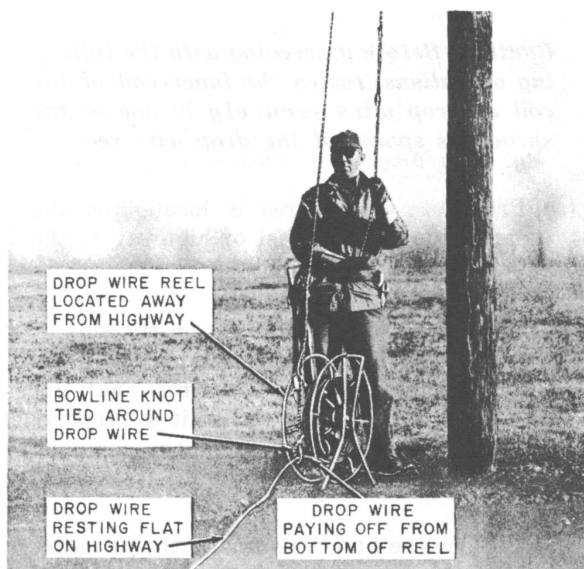
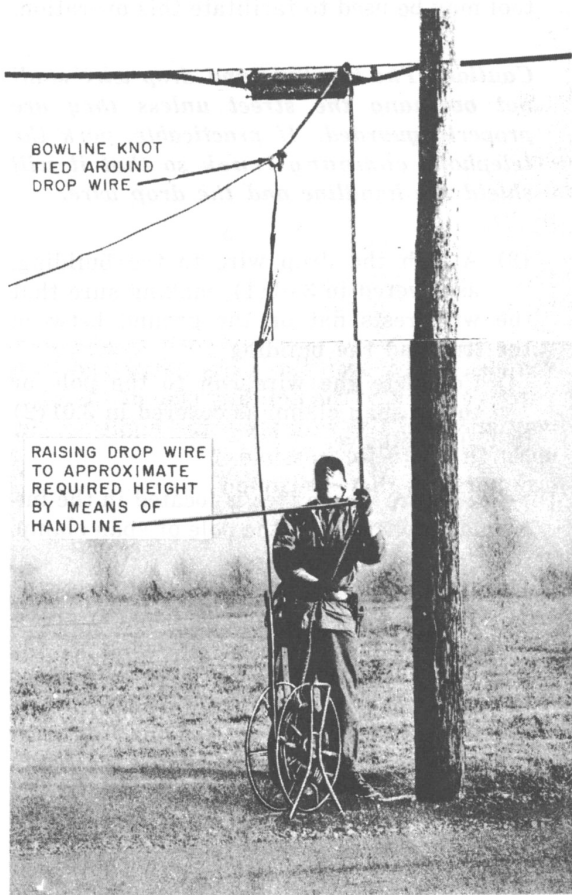

Fig. 3 — Bowline Knot Placed Around Drop Wire
Fig. 4 — Raising Drop Wire
- (2) Place a handline over the strand, guard arm, drive hook, or crossarm so that both ends reach the ground, with no excess length in that portion of the handline toward the building. If practicable, the handline may be formed into a coil at one end and thrown over the strand. After the handline has been placed, tie it to the base of the pole or the lower rungs of the ladder to avoid interference with pedestrians or vehicles. If it is necessary to climb the pole or ladder to place the handline, install any drop wire support that is needed.
- (3) Roll or carry the drop wire reel from the building to the building side of the street or highway, paying out the wire along the ground with sufficient slack to ensure that the wire rests flat on the ground.
- (4) When no traffic is approaching, roll or carry the drop wire reel across the street or highway to the previously placed handline, paying out the wire so that it rests flat on the ground. If a metal or hard rubber-tired vehicle passes over the wire, carry the drop wire reel back to the building side of the highway and pull the wire from the highway. Inspect the wire for possible injury and replace any portions that are found to be damaged.
- (5) Release the handline from the base of the pole or ladder and tie a bowline knot in the end of the handline toward the building and around the drop wire at the reel as shown in Fig. 3, being careful not to raise the wire above the highway. Wind any excess length of drop wire on the reel.
- (6) Set the brake of the drop wire reel so that when the wire is raised by the handline there will be sufficient tension on the wire to enable it to be pulled up to the approximate required height in the span over the street or highway.
(7) After checking to make sure that the drop wire reel is in a stable position and that its brake is properly set, grasp the free end of the handline. When no vehicles or pedestrians are approaching, raise the drop wire as shown in Fig. 4. If it is necessary to remove excess slack from the wire span as it is being raised, pull the wire at the reel end to obtain the desired slack and wind the excess length of wire on the reel.